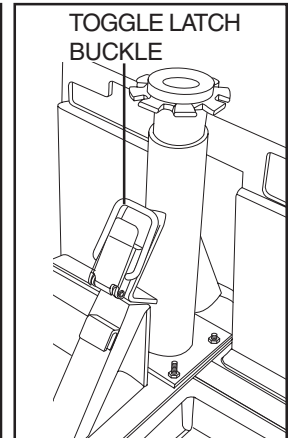

Figure 16B. Buckle Secured
2. Position the toggle latch buckle over the top of the toggle latch. See figure 16B.